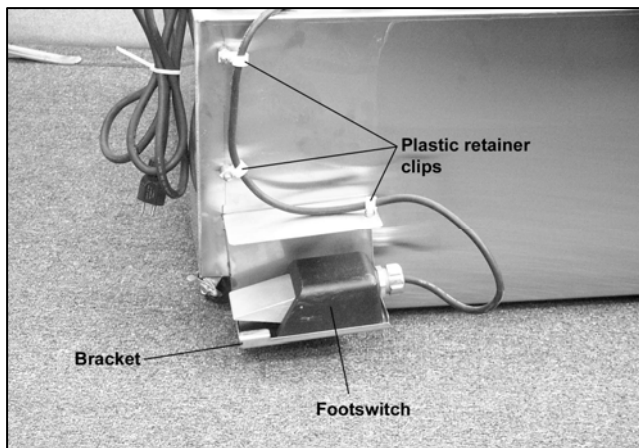

Figure 2-1. Footswitch.
8. After the power has been turned on, the footswitch (see Figure 2-1) must be depressed in order to start the pump.
- b) Remove the footswitch from the bracket (See Figure 2-1).
- c) Detach the cord from the plastic retainer clips (See Figure 2-1).